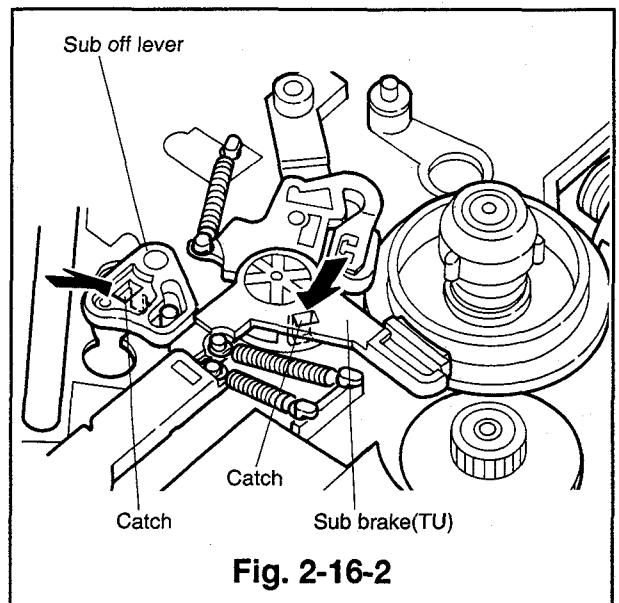

Fig. 2-16-2
(Refer to Fig. 2-16-2)
- ⑤ Unfasten the catch with a small screw driver, etc., and raise the sub brake (TU) upward to remove it as shown in Fig. 2-16-2.